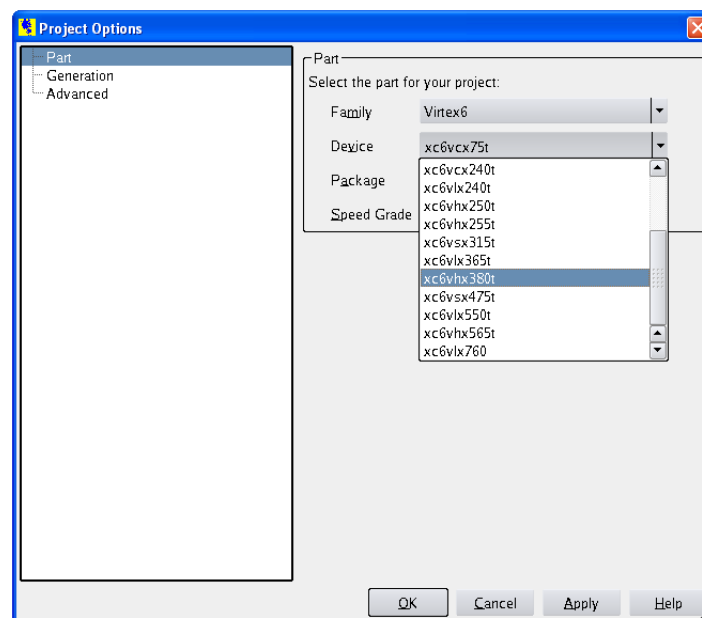

Figure 3-3: Target Architecture Setting
4. Select an appropriate package from the Package list. This example uses the XC6VHX380T device (see Figure 3-3).